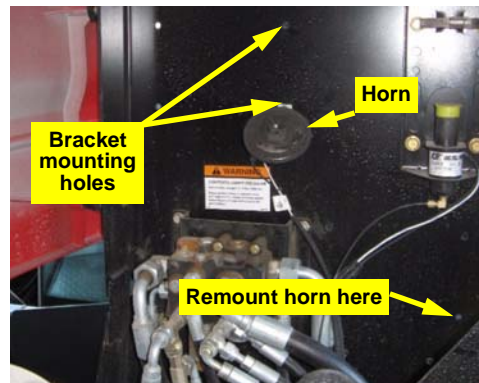
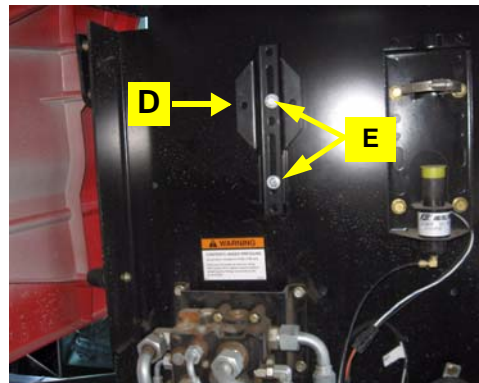

Figure 2a: Steering block and new horn mounting location
Figure 2b: Installed steering block mounting bracket (new drilled holes if necessary)
- a. Locate the two bracket mounting holes on the front side of the firewall. Relocate the horn to the mounting hole as shown (Figure 2a).
- b. Using provided hardware **E**, install the mounting bracket **D** against the firewall (Figure 2b).
*The bracket mounting holes in the firewall may not (i) be exactly where shown in Figure 2a, nor (ii) align with the holes in the mounting bracket **D**. In either case, use the mounting bracket as a template and drill two 3/8" holes in the location shown in Figure 2a and install bracket **D** as shown in Figure 2b.*